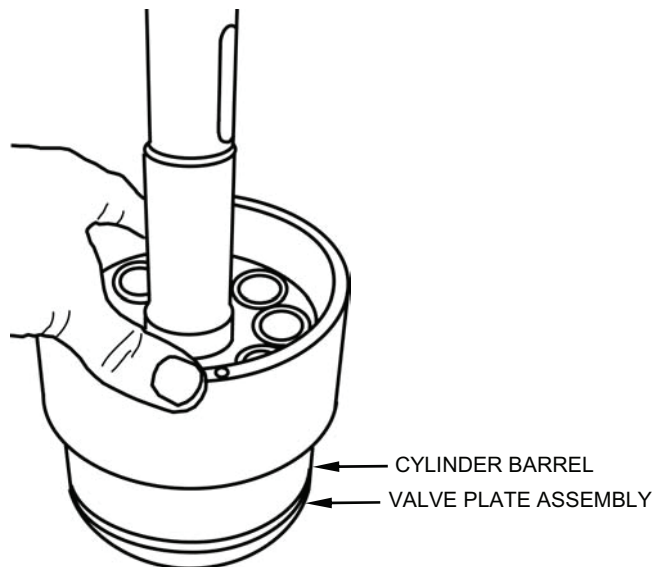

Figure 31. Installing Cylinder Barrel onto Valve Plate.
- b. By hand, carefully press the cylinder barrel on the valve plate so that there is an even gap between the barrel and the valve plate (see Figure 31).